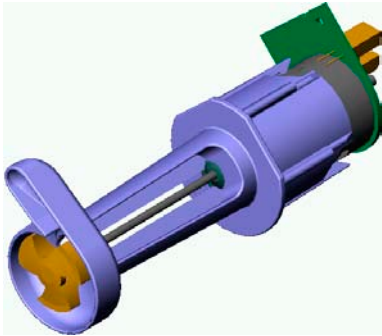

Fig. 3 Pump motor + rotor
- After a selection key is pressed, the pump motor (fig. 3 ) is driven for a certain time, depending on the amount, with a certain speed (number of revolutions).